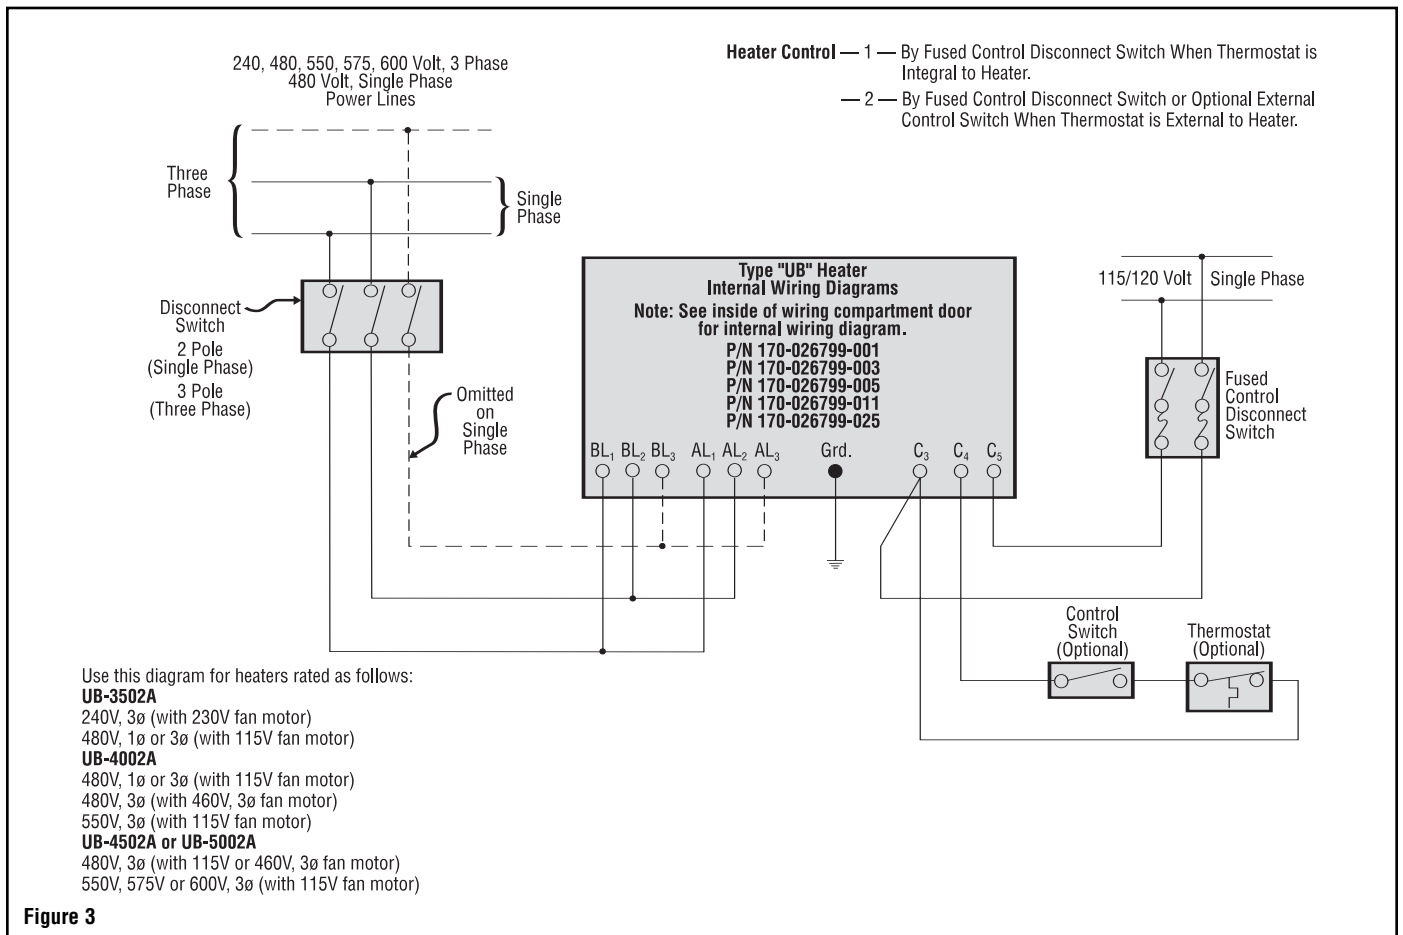

Figure 3
1. Connect heater according to the voltage and frequency specified on the nameplate and using the appropriate wiring diagram (Figures 3 thru 14).
3. Heaters are not provided with a control switch and should be controlled by externally mounted disconnect switches and/or separately mounted thermostat and control switch as recommended in appropriate wiring diagrams (Figures 3 thru 14). Key to proper wiring diagram is the part number (P/N) of internal wiring diagram located on inside of the hinged cover of the terminal box.